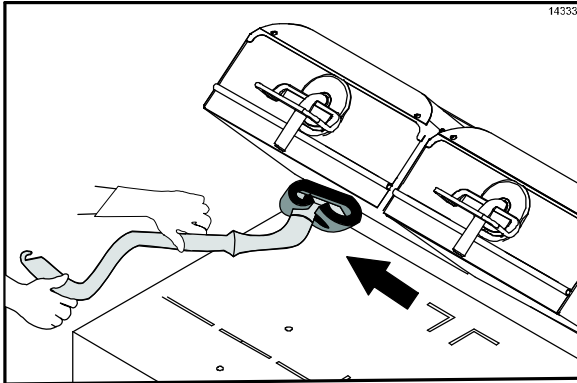

Figure 48
17. Apply the grill cleaner to the platen surfaces, starting from the right platen to the left platen. (See Figure 48.)